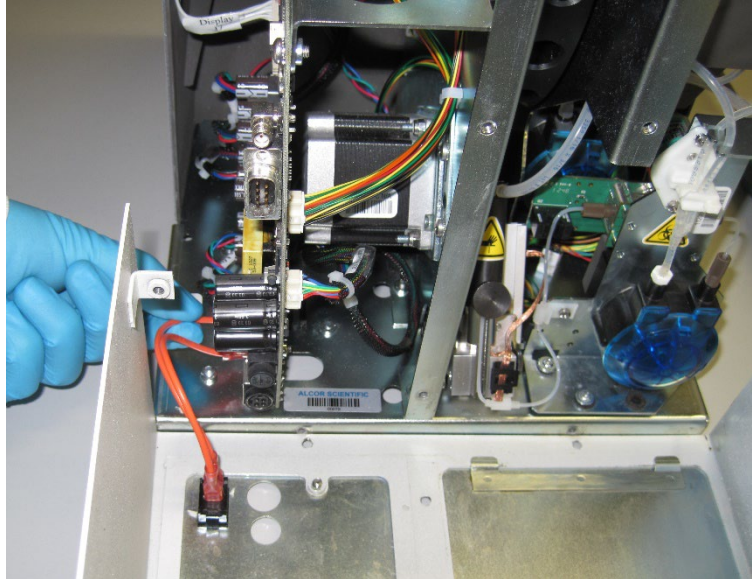

Figure 35
9.2. Attach the two wires leading from the power switch to the main electronics board. Figure 35